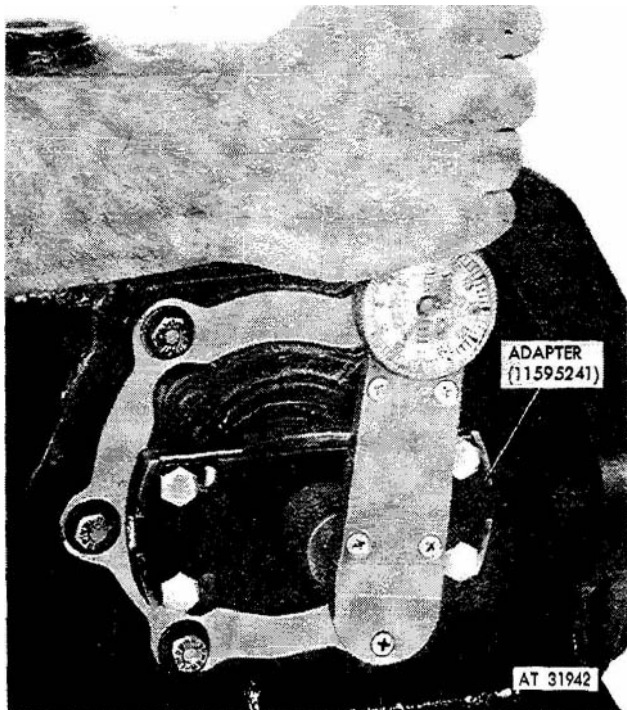

Figure 3-146. Checking center differential equalizer assembly bearing p reload.
(5) Position housings (17 and 50) and shims (16 and 49) and secure to housing (15) using screws (26 and 52) and lock washers (27 and 51).
(6) Position an output shaft in equalizer assembly (43) and attach adapter (11595241) and a suitable pound-inch torque wrench to output shaft (fig 3-146). Measure bearing preload. Bearing preload should be 5-15 lbs-in., if not, adjust preload by adding or subtracting the number of shims (16 and 49, fig 3-141) under housing (17 and 50).